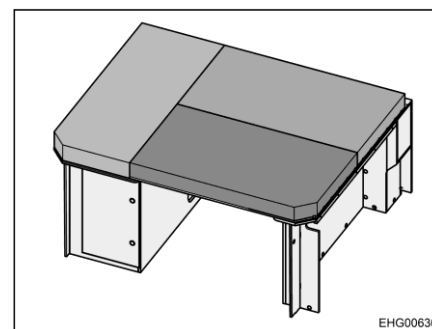

Fig. 33 Rear bed (converted for sleeping)
- Distribute the cushions on the lying surface as shown in Fig. 33.